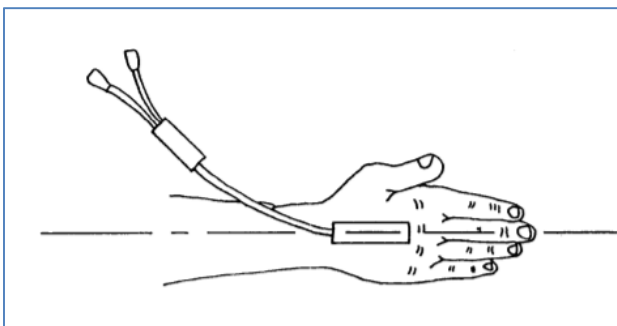

Figure 5: Neutral position
- Start with the subject's shoulder in abduction at 90 degrees and elbow flexed at 90 degrees, such that the forearm is close to full pronation. This position is defined as the neutral position. (Figure 5)
1. Start from the neutral position (as figure 5).